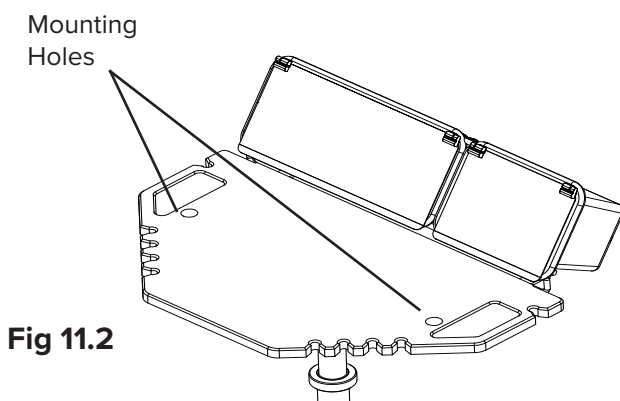

Fig 11.2
1. The Top Tier of the your workstation must be assembled on-site by inserting the poles from the top tier into the mounting holes as shown (Fig 11.2).